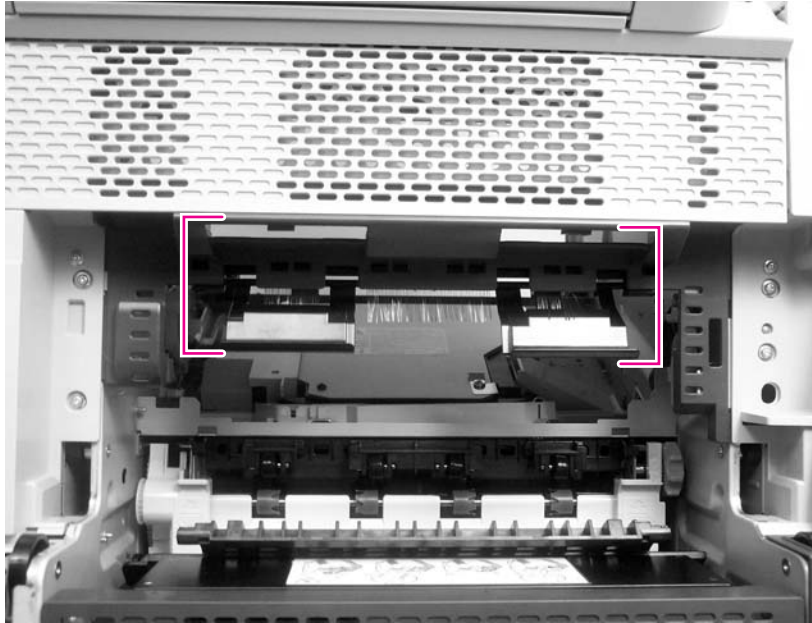
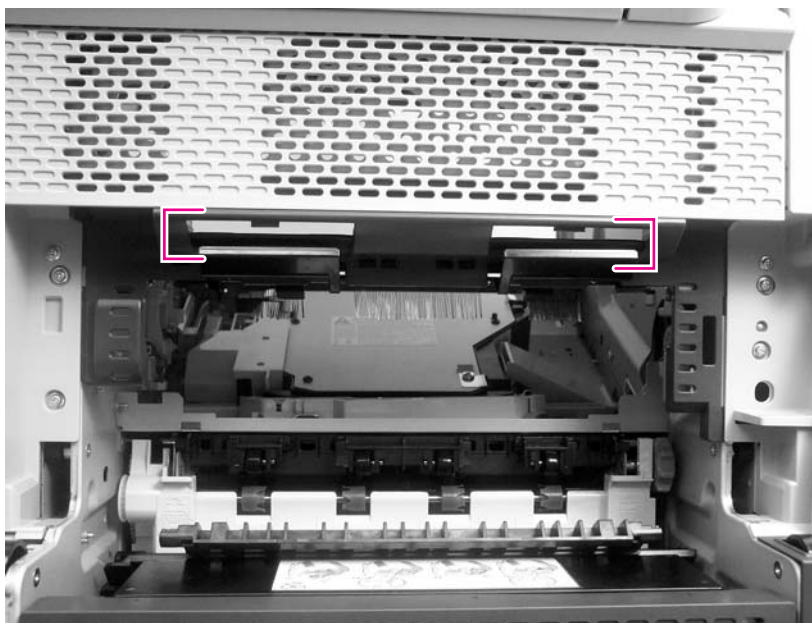

Figure 6-167 Incorrect installation of the output-bin-full sensor
Figure 6-168 Correct installation of the output-bin-full sensor
- 4 **Reinstallation tip:** After installing the replacement output-bin-full sensor, verify that it is in the upright position. This ensures that the sensor is correctly installed and will be correctly positioned when the output bin is installed. The lever on the control-panel end of the sensor must be installed between the plastic MFP cover and the output-bin-detection lever. See Figure 6-167 Incorrect installation of the output-bin-full sensor and Figure 6-168 Correct installation of the output-bin-full sensor.